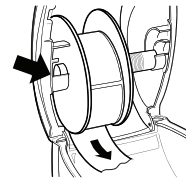

Figure 7
- Insert the label spool into the slot in the printer cover with the labels extending from underneath the roll. See Figure 7.